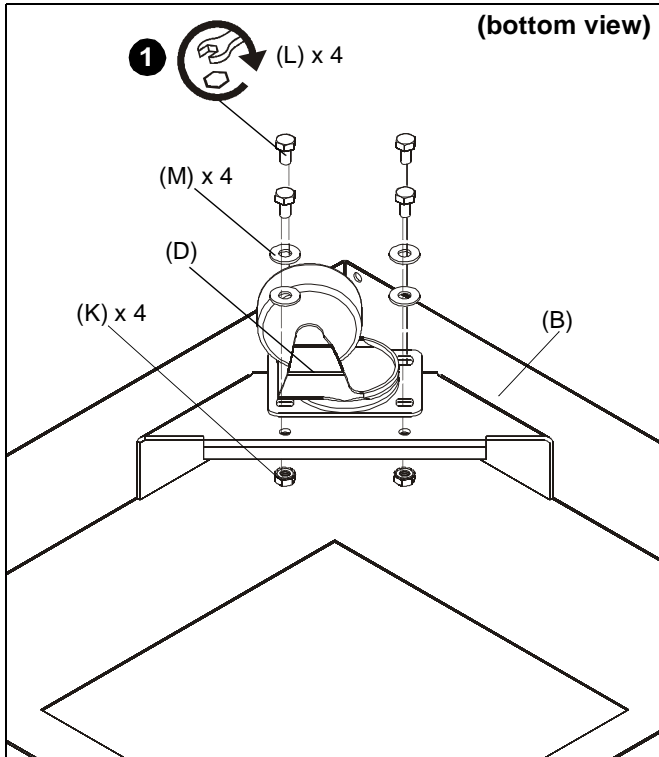

Figure 1
1. Use four 1/4-20 x 5/8" hex head tapping screws (L), four 1/4" washers (M) and four 1/4-20" lock nuts (K) to secure caster (D) to rack base (B). Repeat for each caster. (See Figure 1)